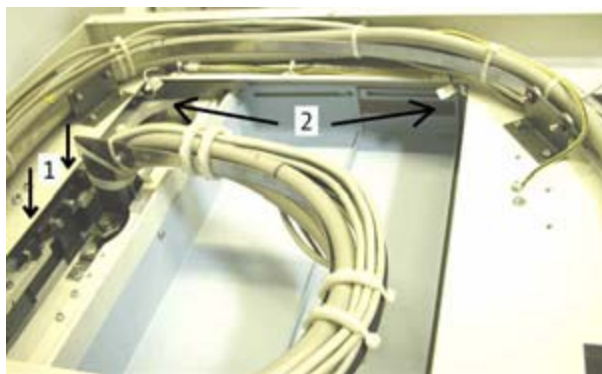

Fig. 5: Central ray
- Adjust the tube assembly with the two adjustment screws, see (1/Fig. 5 / p. 13) on the longitudinal carriage so that the center of the cross is visible on the monitor centrally between the collimator leaves in the longitudinal direction. Then attach the tube assembly housing.
- Adjust the tube assembly with the exposure position switch, see (2/Fig. 5 / p. 13) (arrows 2 for exposure position switch S122 and park position switch S123), so that the center of the cross is visible on the monitor centrally between the collimator leaves in the transverse direction. The transverse carriage will hit the stop only lightly.